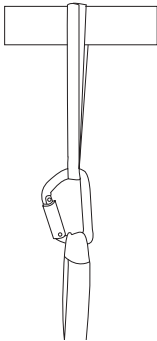
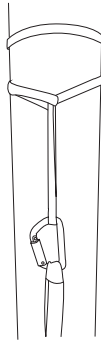

Fig. 2A: Horizontal anchor
Fig.2B: Vertical anchor
2. Place the anchor sling around a structure and into the karabiner fig. 2A.
NOTE: The structure must be able to take a load of 12 kN. If the anchor sling is placed around a vertical construction, detach the sling and place it twice around the pole and through itself again. Then attach the karabiner as shown in fig. 2B. Ensure that the anchor sling locks in place. Fig. 2C show how to attach the karabiner to a fixed structural anchor EN795 cl.A.
4. Detach the karabiner from the anchor sling. Place the anchor sling around a structure and into its karabiner as shown in fig. 2A or fig. 2B. The anchor must be able to support a load of 12 kN (EN795). Attach the **Smartline X** as shown in fig.4.